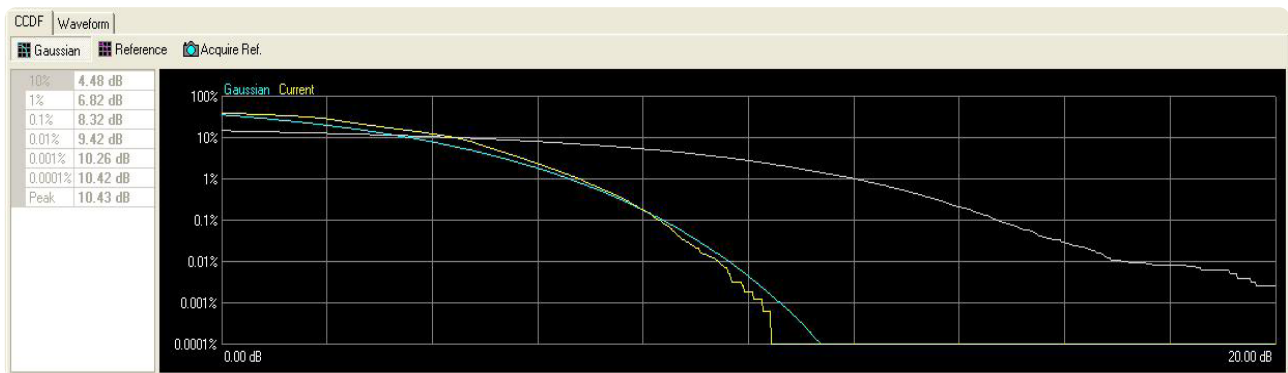
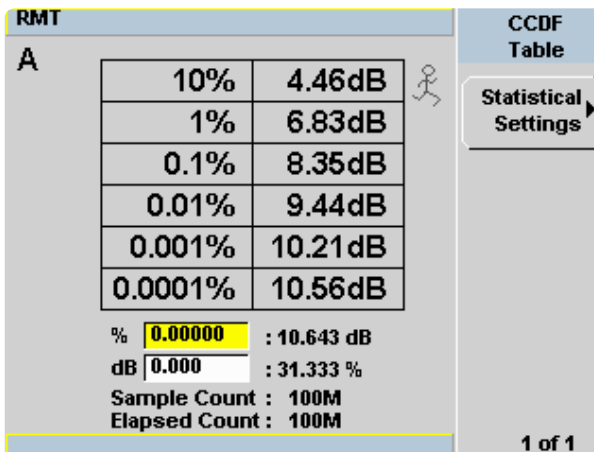

Figure 11. Waveform CCDF calculates the CCDF and peak-to-average ratio using the entire LTE-TDD waveform (with downlink signal off and uplink signal on)
Figure 13. CCDF table format
The P-Series power meter provides waveform CCDF measurement in graphical and table formats (See Figure 12 and Figure 13). In Figure 11, the Signal Studio under waveform setup shows that the CCDF plot and the table to the left of the CCDF plot display the calculated peak-to-average values. The blue line represents the Gaussian noise and the yellow line represents the input signal. Prior to measurement, a reference trace is set and compared with the Gaussian noise trace.
6. Set the CCDF in table format and expand the display. (See Figure 13).	[Disp], {Disp Type}. {1 of 2}, {CCDF Table}, []].